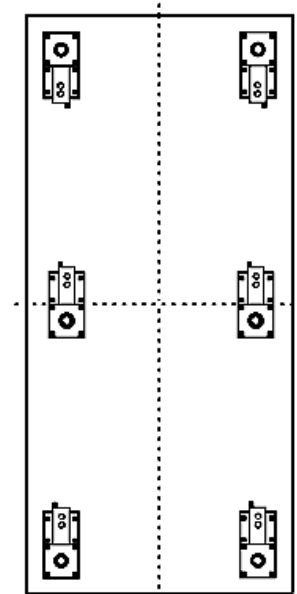

Figure 5
3. When installing six Load Cells (*Figure 5*), **be extremely careful** to position the center Omnicells® to exactly the same height as the outer Omnicells®.